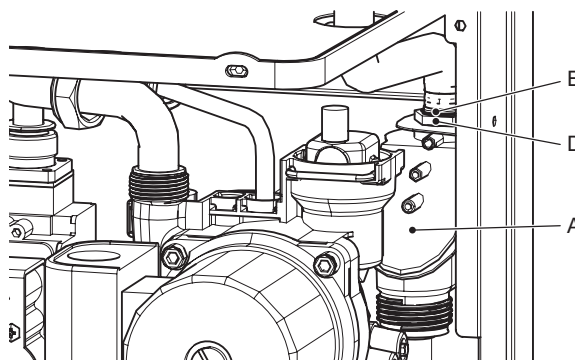

Figure 17.8
The condensate drain pipe A (Fig. 17.8) does not require any particular maintenance but just check:
- Remove the forks E and remove the condensate trap A moving it downwards (Fig. 17.8).